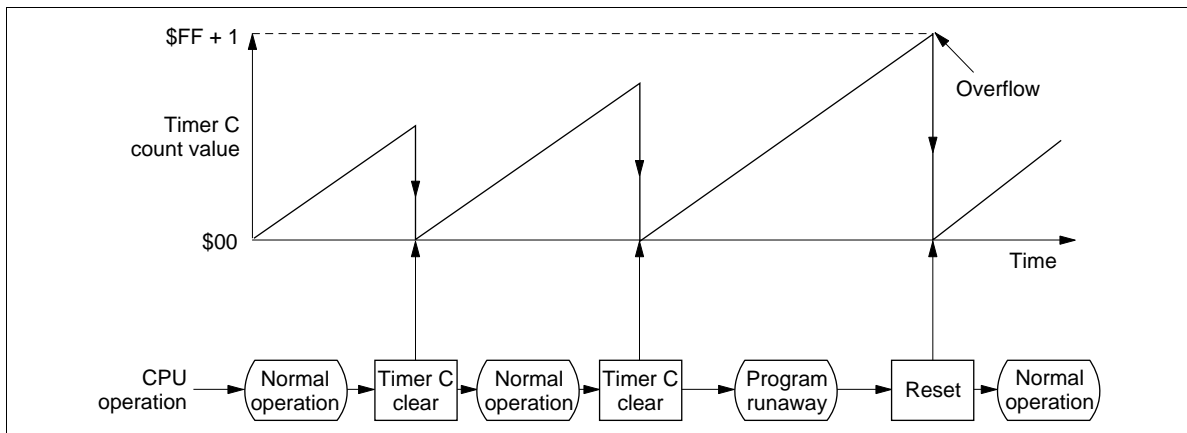

Figure 48 Watchdog Timer Operation Flowchart
- Watchdog timer operation:** Timer C is used as a watchdog timer for detecting out-of-control program routines by setting the watchdog on flag (WDON: \$020, bit 1) to 1. If a program routine runs out of control and an overflow is generated, the MCU is reset. The watchdog timer operation flowchart is shown in figure 48. Program run can be controlled by initializing timer C by software before it reaches \$FF.